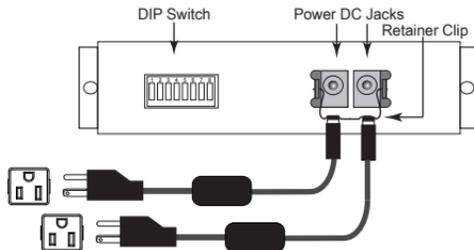

Figure 8 - Power Connections
1. Plug one of the supplied power cords to a power connector located at the rear of the chassis. Plug the other end to a power source. See Figure 8.